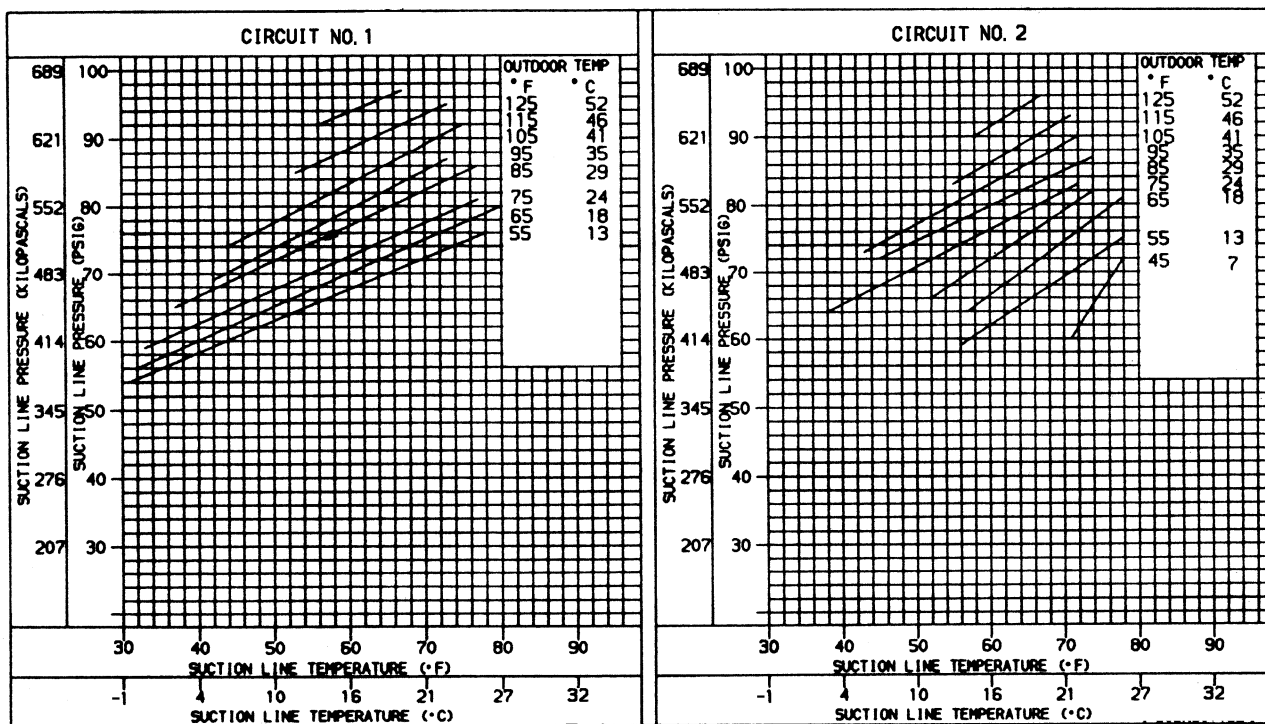

Fig. 44 — Cooling Charging Chart; 48TJ014
**TO USE COOLING CHARGING CHART** — Take the outdoor ambient temperature and read the suction pressure gage. Refer to appropriate chart to determine what suction temperature should be. If suction temperature is high, add refrigerant. If suction temperature is low, carefully recover some of the charge. Recheck the suction pressure as charge is adjusted. Example (Fig. 44, Circuit 2):